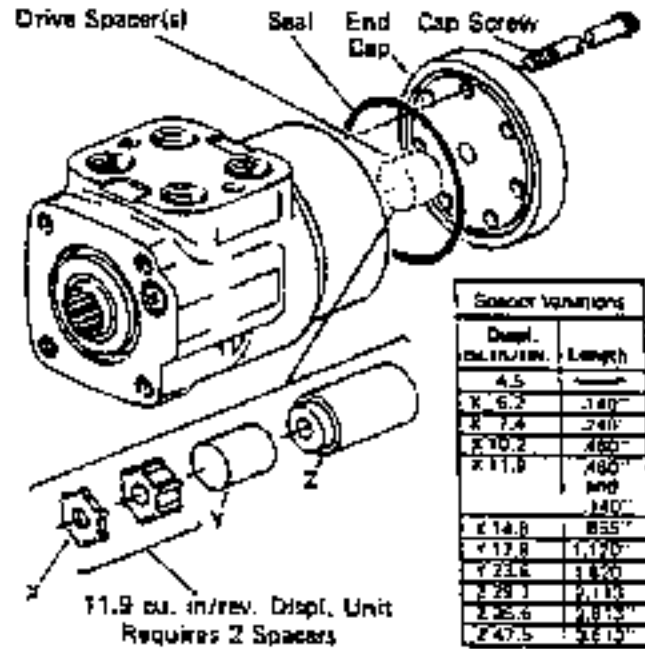

Figure 25
24. Install drive spacer(s) when used, in meter, see Fig. 25.